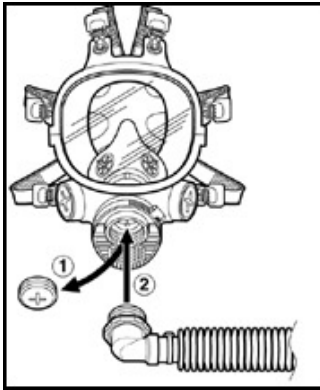

Fig. 9
1. Remove Full Face Plug 7890 and screw in 3M™ Breathing Adapter Tube W-3264 into center opening. (Fig. 9)